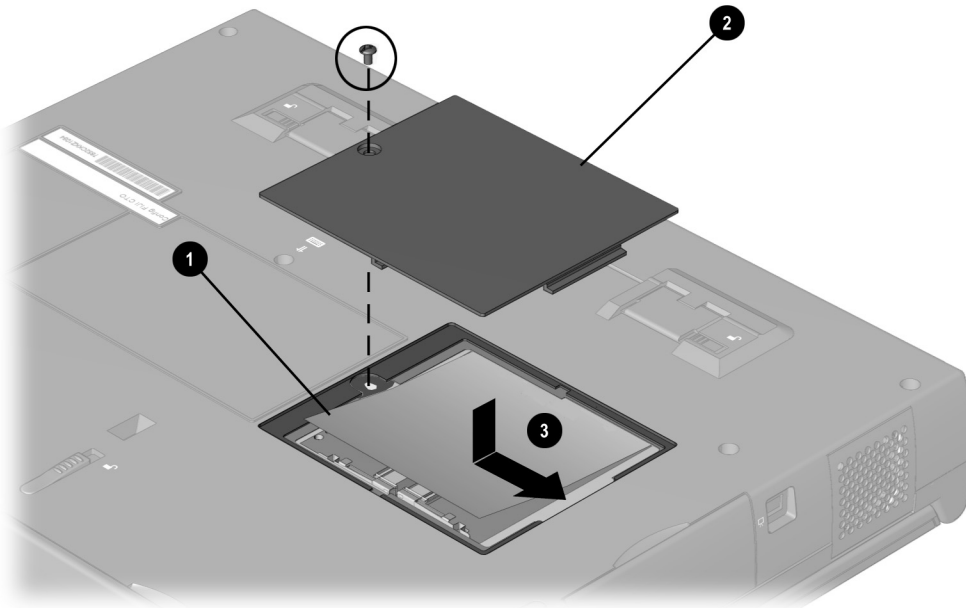

Figure 5-27. Replacing the Memory Expansion Compartment Cover
1. Reset the memory insulator ❶ over the installed memory expansion board(s), ensuring that all edges of the memory insulator are tucked inside the memory expansion compartment (Figure 5-27).
2. Replace the memory expansion compartment cover ❷ by placing it flush over the memory expansion compartment, then sliding it to the right ❸ until it is seated.